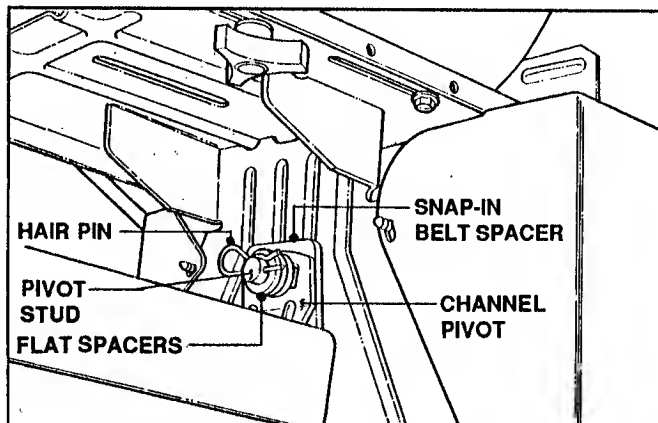

FIGURE 4.2
- (a) Remove hair pin and flat spacers from pivot stud. See Figure 4.2.
- (d) Reinstall the required amount of flat spacers removed in step (a) and install hairpin. Refer to Figure 4.2. Retain any remaining spacers for readjustment when a new belt is installed.